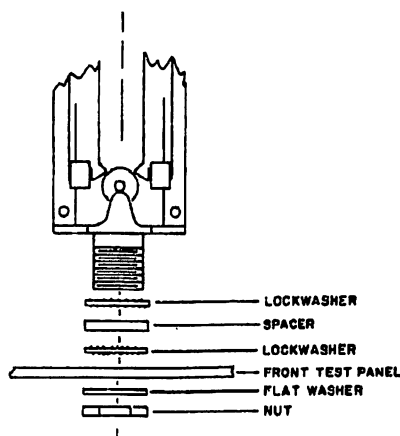

FIG. 8
- () Install the Transistor Selector switch (from kit) as shown in Fig. 8. Orient switch so that the white-green wire comes out to the TRANSISTOR B side.